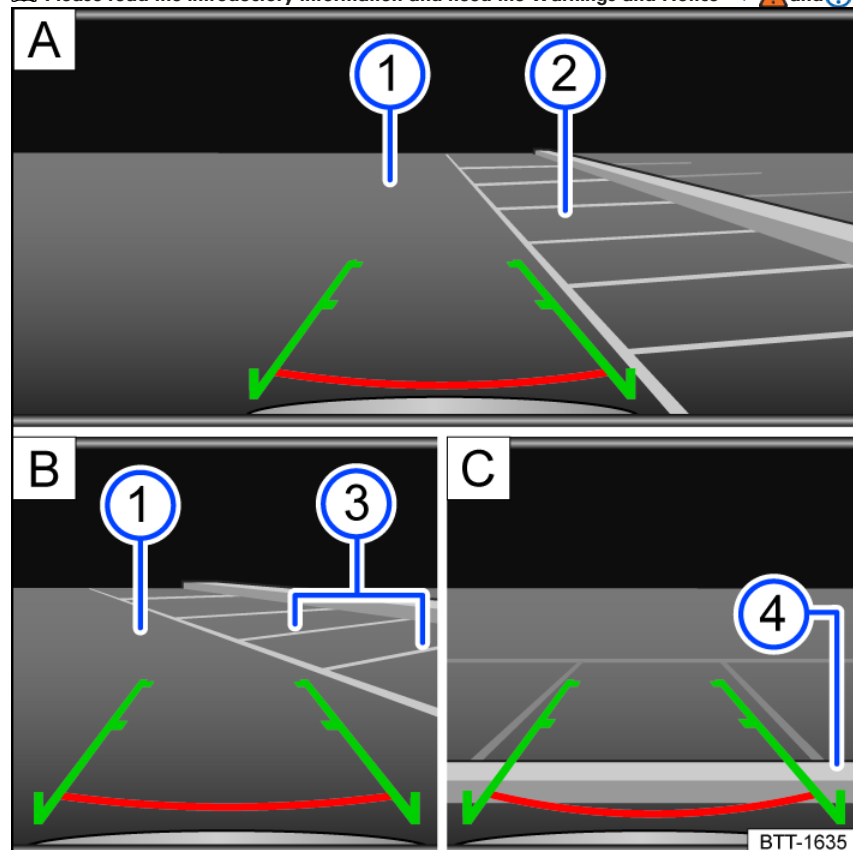

Fig. 118 Infotainment system: Parking with the Rear View Camera system.
- Position your vehicle in front of the parking space *fig. 118 A* ②.
- Slowly reverse while steering so that the green side lines line up with the selected parking space. The green lines must line up with the side boundaries of your parking space *fig. 118 B* ③.
- Stop when the red horizontal line reaches the rear boundary *fig. 118 C* ④.